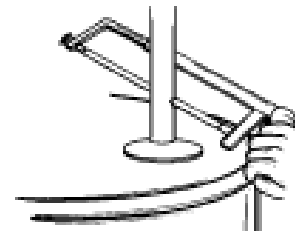

FIGURE 2.
- ⑤ a. If you have copper piping to the water heater, the two copper water pipes can be cut with a hacksaw approximately 4" away from where they connect to the water heater, see Figure 2. This will avoid cutting off the pipes too short. Additional cuts can be made later if necessary. Disconnect the temperature-pressure relief valve drain line. When the water heater is drained, disconnect the hose from the drain valve. Close the drain valve. The water heater is now completely disconnected and ready to be removed.